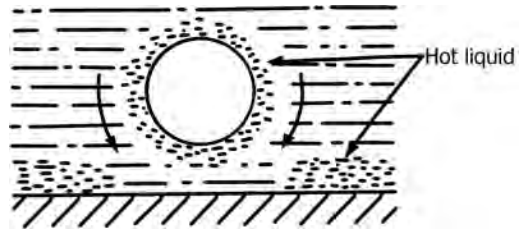

FIGURE 9.13 Vapor–liquid exchange.
- *Vapor–Liquid Exchange*: The wakes of departing bubbles remove the thermal boundary layer from the heated surface and create a cyclic thermal boundary layer stripping process. Sensible heat is transported away in the form of superheated liquid, whose rate of removal is proportional to the thickness of the layer, its mean temperature, the area of the boundary layer removed by a departing bubble, the bubble departure frequency and the density of active boiling sites. Figure 9.13 illustrates vapor–liquid exchange.